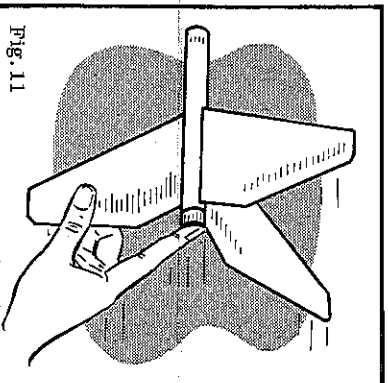

Fig. 11
- 2) Hold the rudder fin as shown in Fig. 11, with finger on engine nozzle, and give a straight forward push, releasing it at arms length. Try this several times, preferably from a high place such as a porch or roof top. The Booster should glide level if properly balanced.